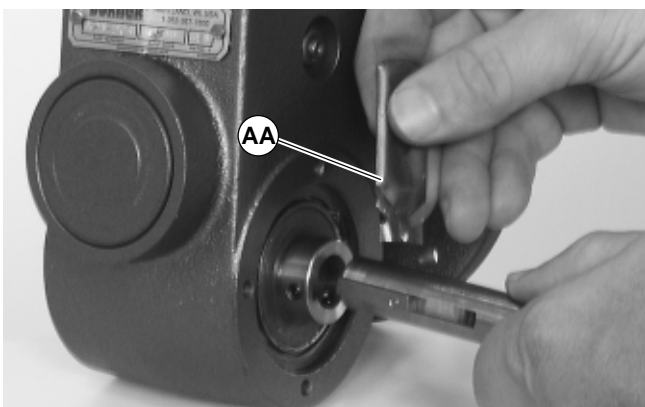

Figure 16
10. Apply grease (AA of Figure 16) to shaft.